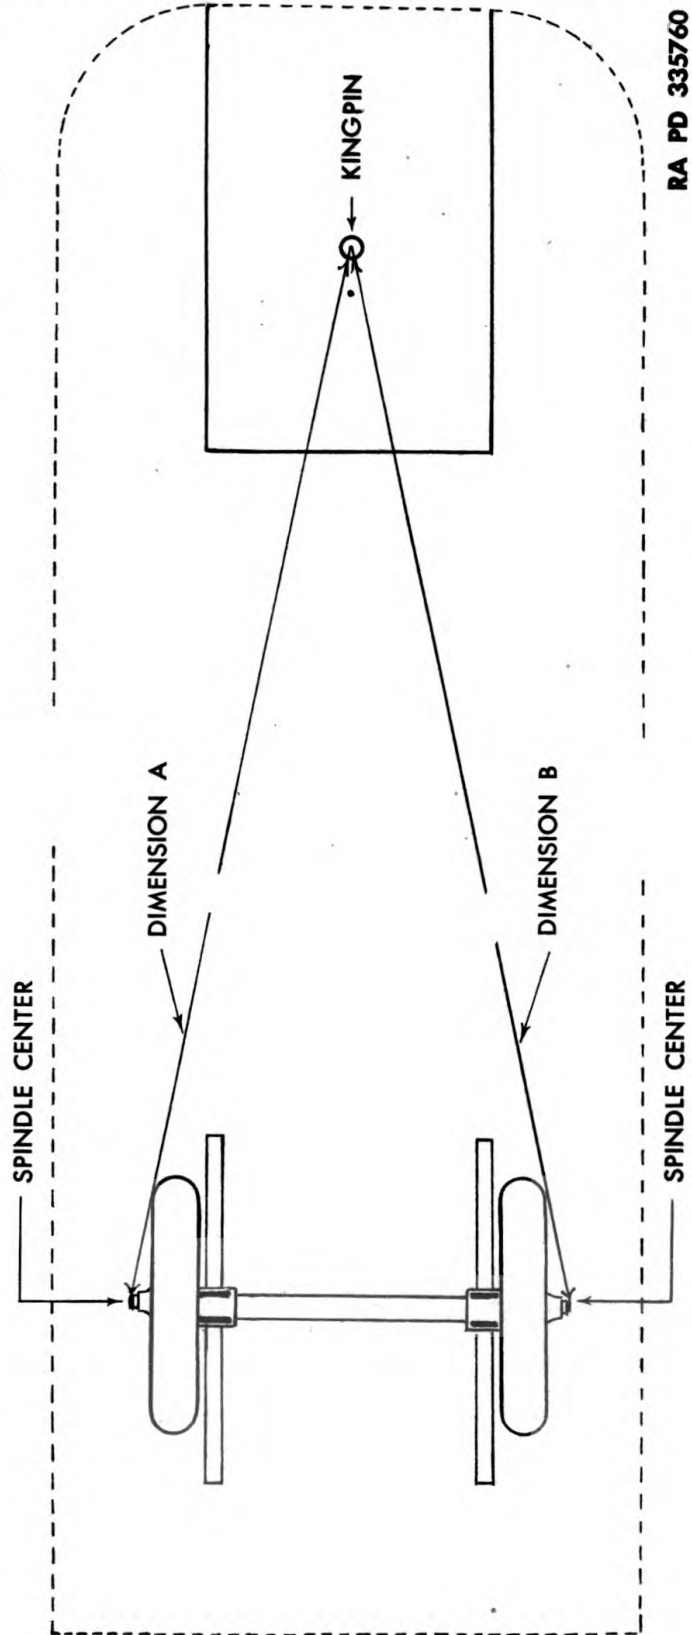

Figure 34—Axle Alinement Diagram
(3) **RADIUS ARM ASSEMBLIES.** The rear end of each radius arm assembly is attached by an eccentric adjusting bolt to the combination spring seat and radius arm casting (fig. 31). Both ends of each radius arm are bushed with rubber bushings whose ends are capped with metal ferrules. The front ends of the radius arms are attached to the lower sections of the front spring hangers by the ends of tie rods which pass through spacer tubes positioned between the front spring hangers. A flat washer, castle nut, and cotter pin are attached to each end of the front tie rod. The eccentric adjusting bolt (fig. 33) is designed to permit alinement of the axle with the kingpin of the upper fifth wheel assembly (par. 42) (fig. 34).
(d) Check the axle alinement by carefully measuring the distance from the center of the kingpin to the center point of the right, or curb side, axle spindle end (fig. 34); and by measuring the distance from the center of the kingpin to the center point of the end of the left-hand axle spindle. **NOTE:** *The length of the curb side check measured must never be greater than the check measure of the left side, but may be as much as one-eighth inch less than the check measure of the left side.* If the difference in the two measurements is greater than one-eighth inch, the axle must be realined.